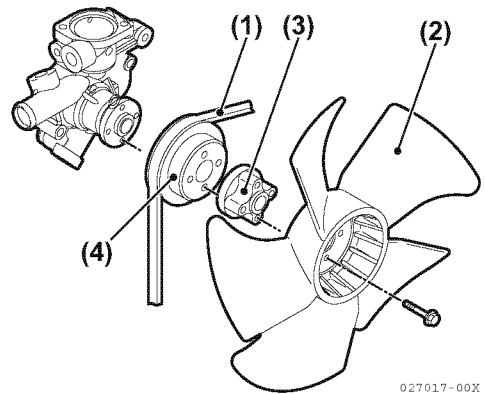

Figure 7-18
11. Reinstall the coolant pump V-pulley (**Figure 7-18, (4)**), spacer (**Figure 7-18, (3)**) (if equipped) and engine cooling fan (**Figure 7-18, (2)**).
12. Reinstall the cooling fan V-belt (**Figure 7-18, (1)**). Adjust as described in *Check and Adjust Cooling Fan V-Belt on page 5-27.*